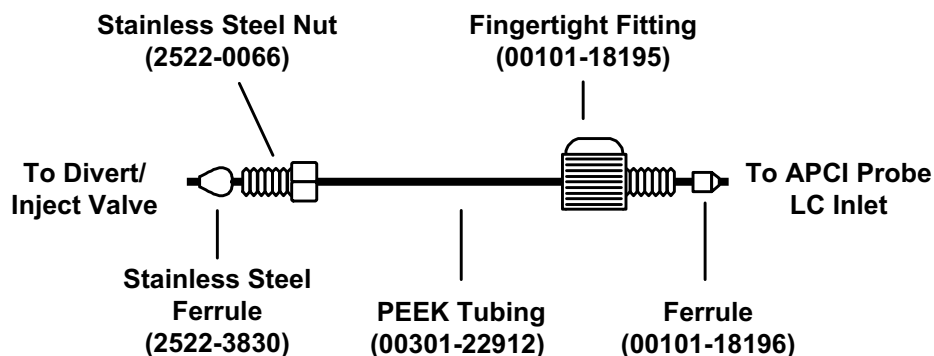

Figure 37. Sample transfer line, installed between the divert/inject valve and the APCI probe
- a. Gather the necessary fittings for installing a sample transfer line (Figure 37).